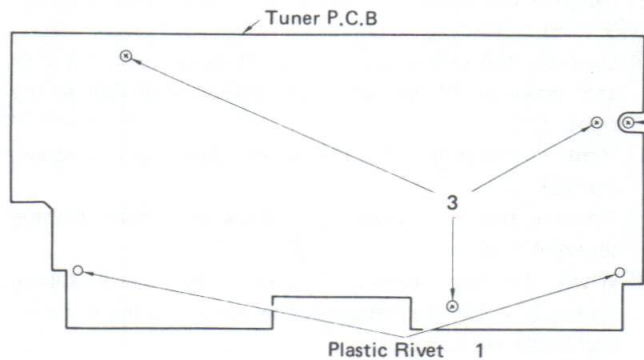
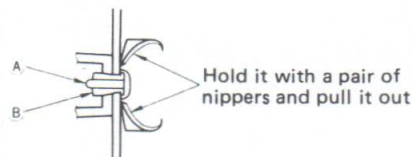

Fig. 8
Fig. 9
- 3) Remove the two plastic rivets ① shown in Fig. 8. This is accomplished by pulling out Section A of the rivet first in the manner shown in Fig. 9, and then pulling out Section B.
NOTE: For reinstallation, insert Section B (Fig. 9) of the plastic rivet first, and then insert Section A.
- 4) When the screw ② (yellow bind head tapping screw, 3 x 12) shown in Fig. 8 is removed, the Tuner C. Board will come off toward the back.
The dial ass'y can be dismounted by removing the three screws ③ (yellow bind head tapping screw, 3 x 12) shown in Fig. 8.